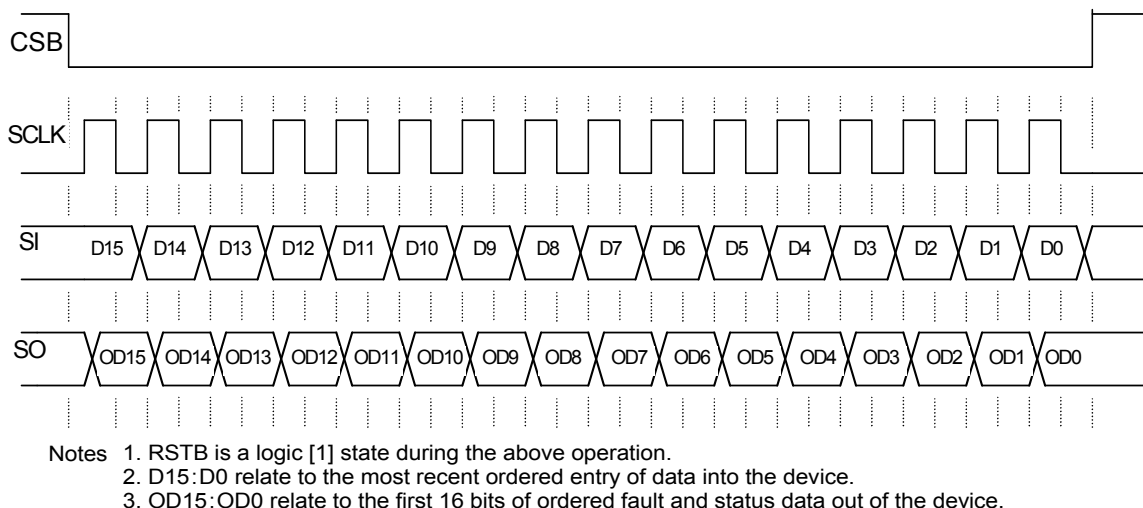

Figure 10. Single 16-bit word SPI communication
The SCLK pin clocks the internal shift registers of the 10XS3425 device. The serial input (SI) pin accepts data into the input shift register on the falling edge of the SCLK signal, while the serial output (SO) pin shifts data information out of the SO line driver on the rising edge of the SCLK signal. It is important the SCLK pin be in a logic low state whenever CSB makes any transition. For this reason, it is recommended the SCLK pin be in a logic [0] whenever the device is not accessed (CSB logic [1] state). SCLK has an active internal pull-down. When CSB is logic [1], signals at the SCLK and SI pins are ignored and SO is tri-stated (high-impedance) (see Figure 10, page 27). SCLK input has an active internal pull-down,  $I_{DWN}$ .